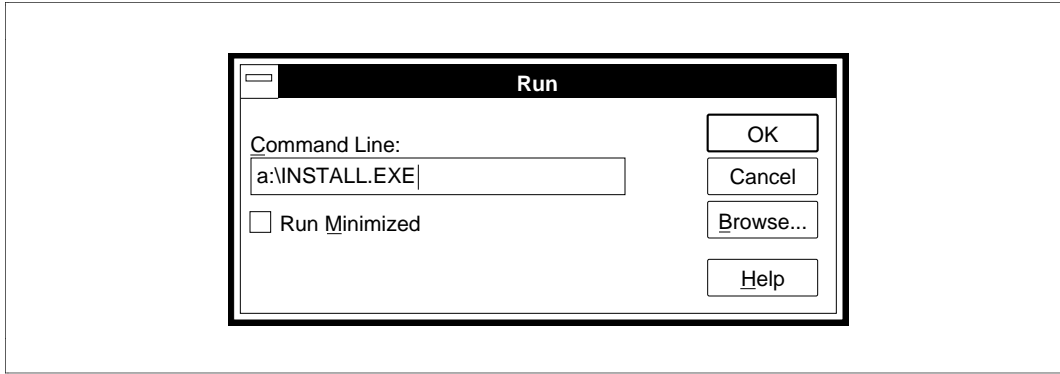

Figure 2-3 File Name Input (INSTALL)
- (1) Insert the provided disk into floppy disk drive A.
- (2) Click the [File] menu (icon) on the Program Manager window.
- (3) Select the [Run...] command (specifies a file name and executes it) by clicking on it; the Run dialog box will be displayed.
- (4) Enter the file name of the installer program (a:\INSTALL.EXE) in the [Command Line:] text box as shown in figure 2-3.